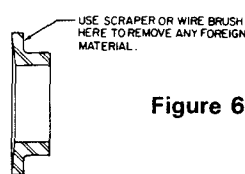

Figure 6
- (a) Remove any foreign material from the back of the metal sealing rings with a scraper or wire brush (see Figure 6).
- (b) Clean the metal sealing rings with a clean degreasing solvent then wipe with the lint free wiping cloths furnished in the rebuilding kit (see Figure 6).